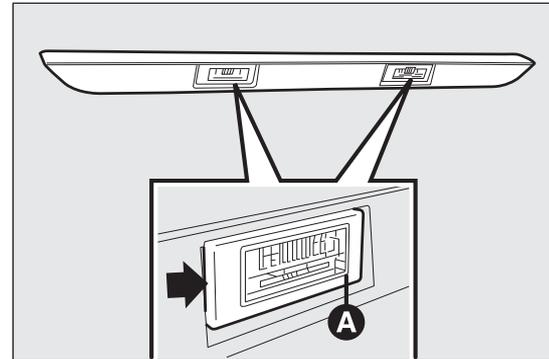

fig. 206
- operate in the point indicated by the arrow and remove the lens unit A fig. 206;